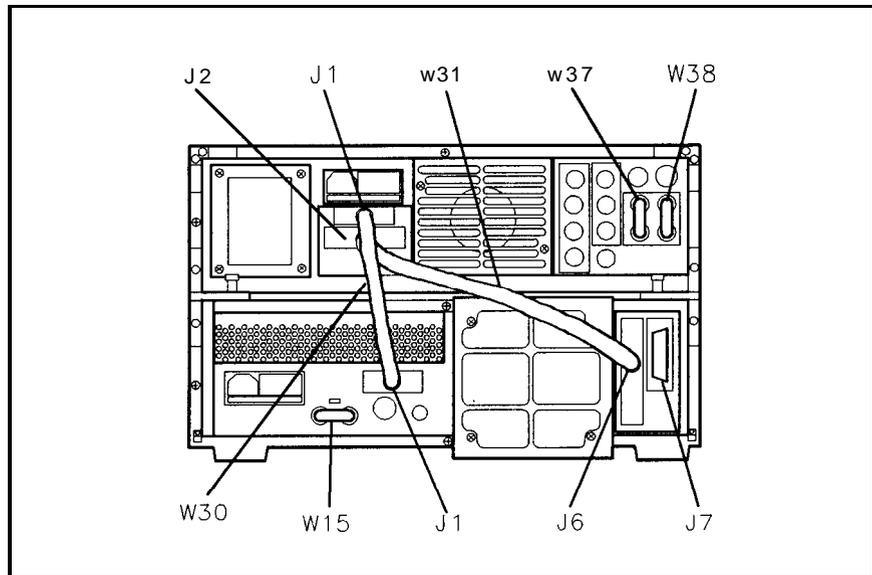

Figure 2-1. Rear-Panel Cable Connections
4. Connect cable W31 between IF-Display section J2 and RF section J6. See Figure 2-1.
14. On each power-line module, check the voltage selector card for the proper ac line voltage. The card's voltage setting should be visible on the card. See Figure 2-1 1. If you need to select a different ac line voltage setting, perform the following: